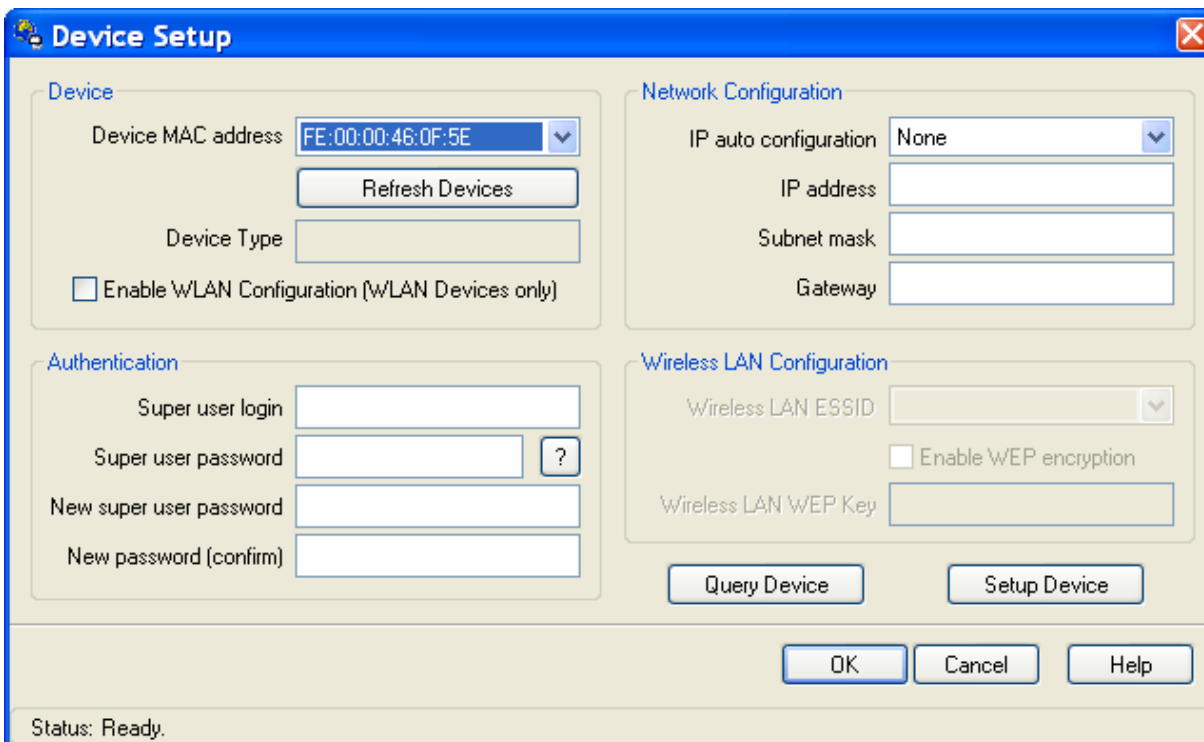

Figure 1-1: KVM Setup Program
3. A screen similar to Figure 1-1 will be displayed.